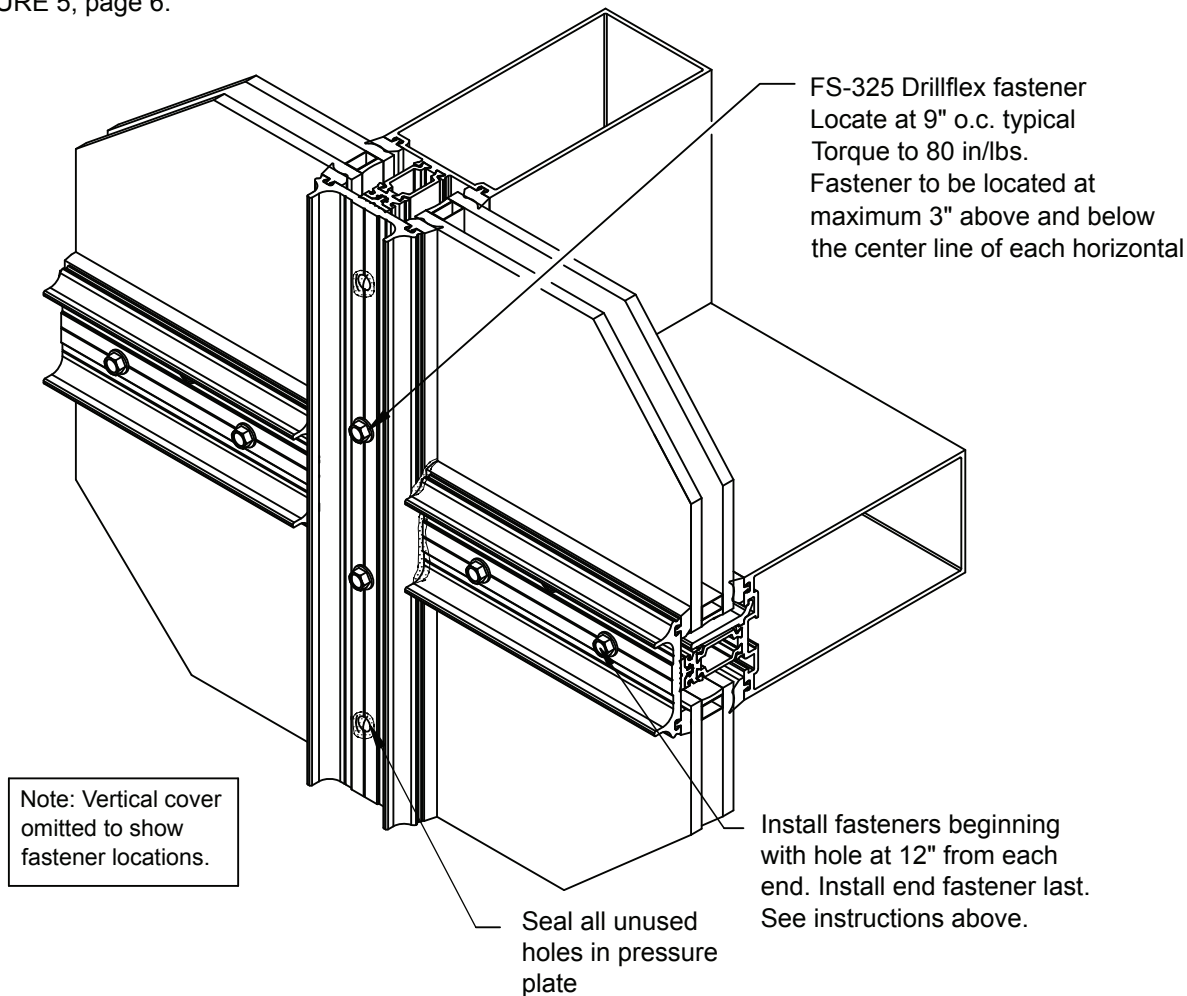

FIGURE 3
2.1 When installing AW-162 FRP pressure plate follow all standard installation steps as noted in appropriate Reliance™ system installation and glazing manual. Install fasteners located at 12" from each end first. then end fasteners in pressure plates last, be sure to hold firm pressure on pressure plate while installing the FS-325 fasteners to prevent pressure plate from pulling away from face of system and disengage the thermal isolator. Torque fasteners to 80 in/lbs. Fasteners will be located at a maximum of 9" on center. Fastener location may vary based on project specifications, so consult shop drawings for additional information. Additional fasteners should be added where needed to insure a fastener is located above and below each horizontal. See FIGURE 3
2.2 All unused holes in vertical and horizontal pressure plates must be sealed. See FIGURE 3